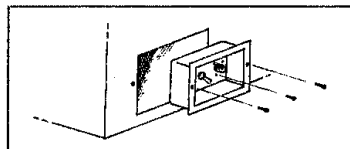

Fig. 8 — End bells from discarded power transformers make good protective covers for switches and connectors.
□ Need a cheap, durable method of recessing switches and connectors? Save the end bells from discarded power transformers. Mounted as shown in Fig. 8, the components are protected and slight irregularities in the cabinet hole are concealed. — *Ken Thomson, WS1FH, Pasadena, Texas*